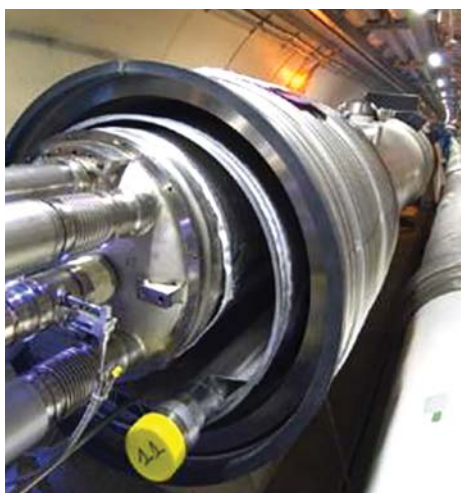

Figure 1. LHC SC magnets cooled by subcooled, superfluid He II at ~ 2 K in the accelerator tunnel. Credit: CERN
Unlike the current short-duration gravity-insensitive passive pressure control systems, the future ZBO and RBO pressure control strategies will rely on a complex combination of dynamic forced mixing and energy removal from the two-phase, multi-component propellant system to control the tank temperature and pressure during various storage and transfer operations. These operations that will hopefully be tested in a future large-scale cryogenic fluid management (CFM) demonstration for in-space refueling (Figure 1) involve either segregated or interpenetrated fluid phases
Figure 1: NASA STMD Large-Scale CFM Demonstration for In-Space Refueling. Credit: (<https://spacenews.com/lockheed-martin-removes-momentum-from-nasa-technology-demonstration-mission>)
The superconductor (SC) and liquid helium (superfluid He II & He I) are two vital materials in cryogenic engineering, playing crucial roles in various applications. They both exhibit miraculous zero resistance and other fascinating quantum behaviors at the large macroscopic level. **Superconducting electrons show fermionic performance due to their half-integer spin**, governed by the Pauli exclusion principle. In a SC below its critical temperature (T_c), electrons form Cooper pairs, which move without scattering or dissipating energy as heat and electrical resistance is completely absent. **He II consists of bosons with integer spin values**. Superfluidity in He II occurs when it is cooled to ~ 2 K, and a significant fraction of **helium atoms undergo a phase transition to Bose-Einstein condensate (BEC) state**. Due to excellent thermal conductivity and cooling capability, liquid He is the only practical cryogen for large SC machines (exclusion of HTS), while LN_2 is often used for precooling and thermal shields.^[1-4] The Large Hadron Collider (LHC), NbTi magnets cooled by subcooled-superfluid He II at 1.8 K (Figure 1), and the ITER Tokamak Nb₃Sn magnets cooled by supercritical He I at ~ 3.7 K to 4.5 K (Figure 2),
Good designs are safe designs. The fact that safety planning wasn’t completely integrated with our design process was the core of the issue. Looking back at HYPER’s design process, it became clear how the many parts of a safety plan directly map to design. Figure 1 shows a flowchart of this integrated